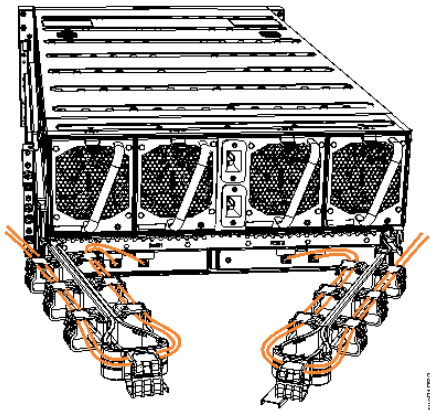

Figure 99. Example of SAS cables routed through the cable management arms
8. Route the SAS cables through the cable management arms, as shown in Figure 99 on page 80.